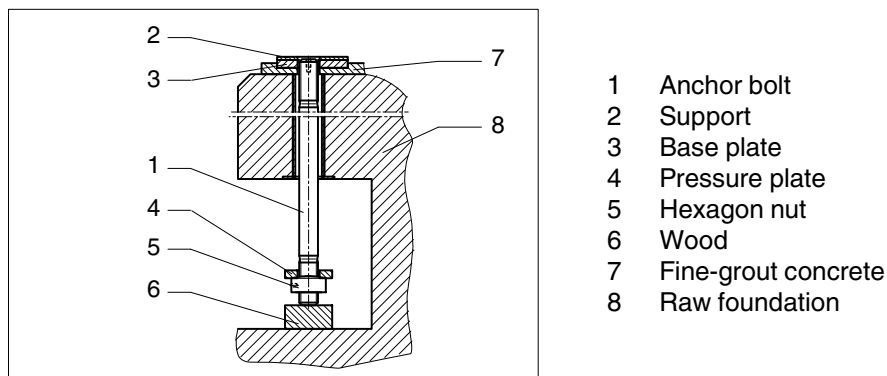

Fig. 47: Anchor bolt
- Place wood under the anchor bolts so that they are about 10 mm from the upper edge of the support (see fig. 47).